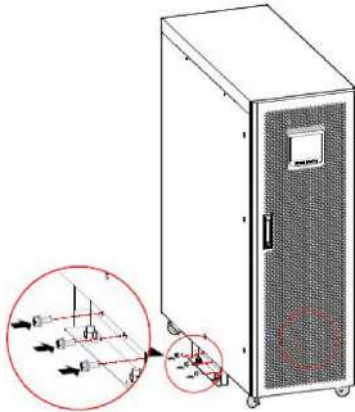

Figure3-14 Fasten the UPS
- Step 5 Move the UPS from wooden bracket to the installation site, lock UPS with supporting plate by six M8 hexagon bolts, as shown in Figure3-14, then screw the bolts of supporting plate.